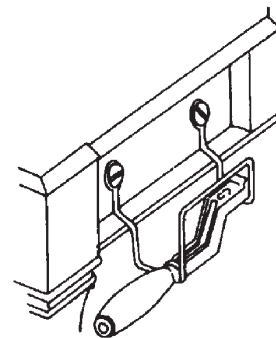

Fig.3
- Replace operating tool on its support cradle when not in use. See Fig. 3.